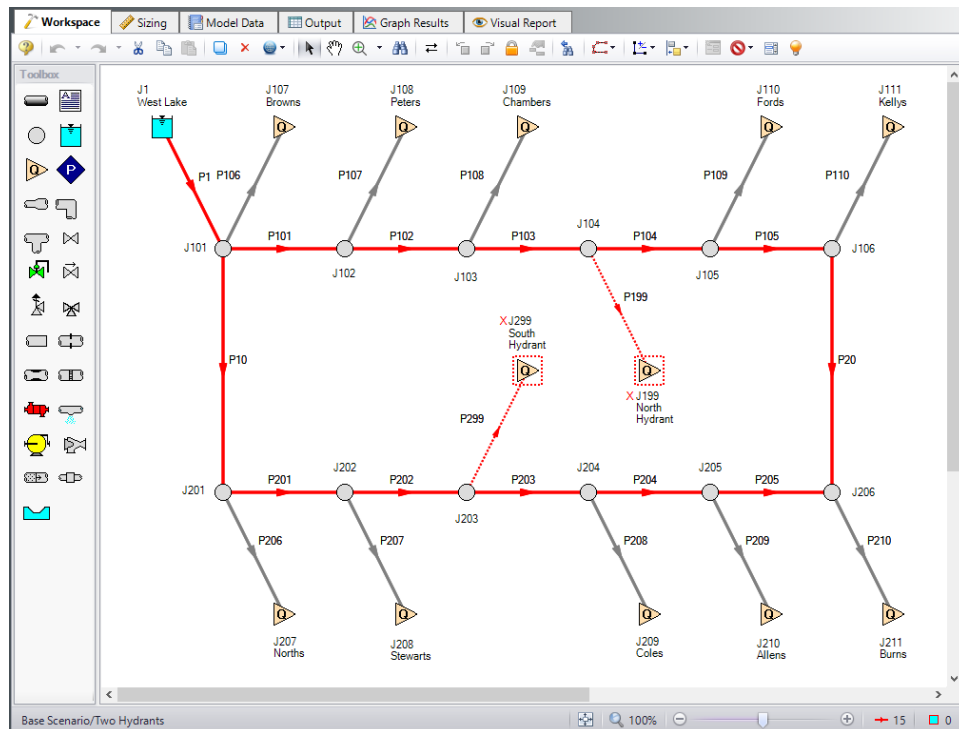

Figure 3: Workspace with pipes selected to add to the Common Size Group
1. Go to the Workspace, and select the lines that will be sized as shown in Figure 3.